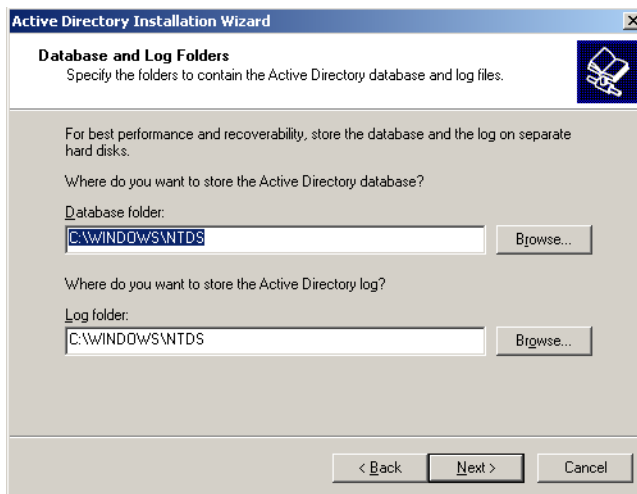

Figure D-12 Database and log folders dialog
14. In the **Database folder** dialogs shown in figure D-12, enter the path C:\Windows\NTDS for these folders. When you have verified these